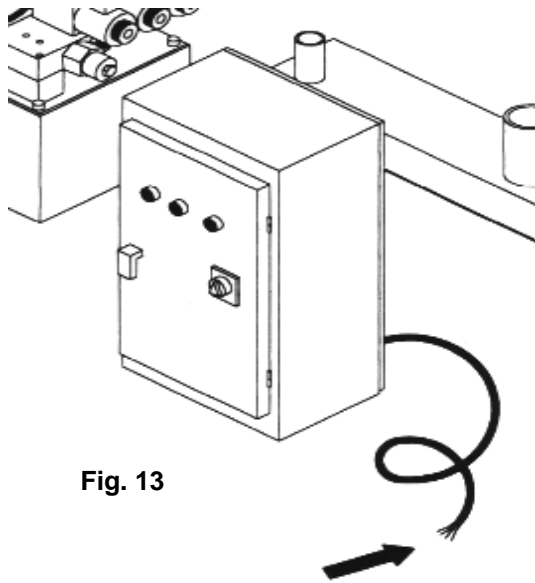

Fig. 13
- The plug must have an earth terminal. (Fig. 13)